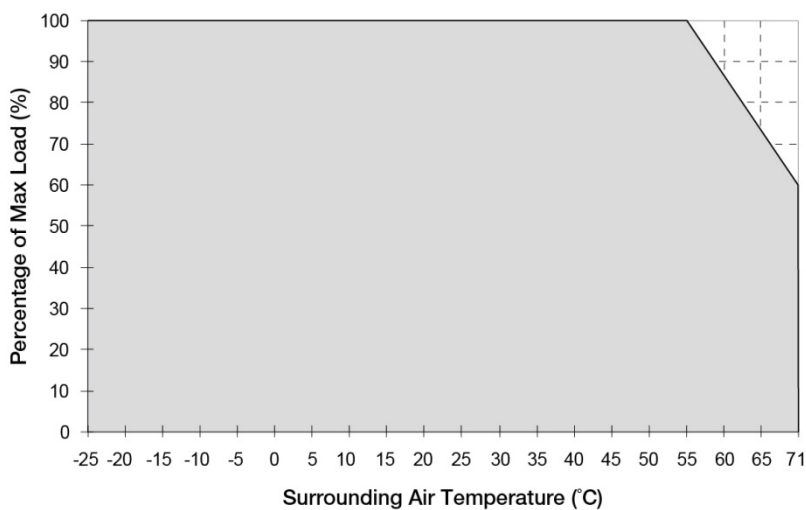

Fig. 1 De-rating for Vertical Mounting Orientation
1. Power supply components may degrade, or be damaged, when the power supply is continuously used outside the shaded region, refer to the graph shown in Fig. 1.